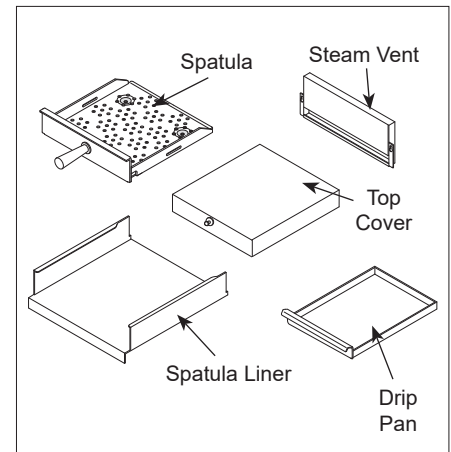

Figure 7. Daily Cleaning-MS-150
2. MS-150: Remove the Spatula, Spatula Liner, Drip Pan, Top Cover, and Steam Vent (Figure 7).